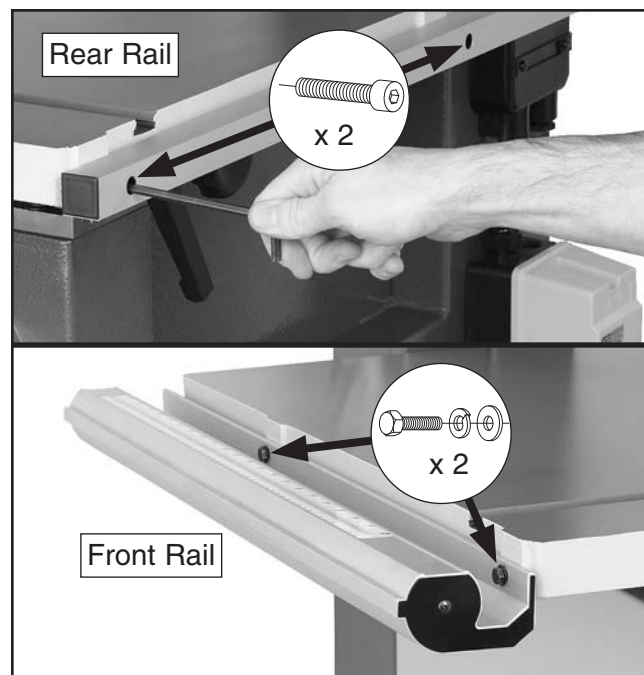

Figure 25. Rail installation.
1. Attach the rear rail to the table with the (2) M6-1 x 16 cap screws, as shown in **Figure 25**.
2. Attach the front rail with the (2) M6-1 x 20 hex bolts, 6mm lock washers, and 6mm flat washers, as shown in **Figure 25**.